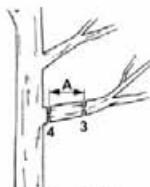

Fig.PP14
5.7.2- Flush-cutting thick branches (Fig.PP14)